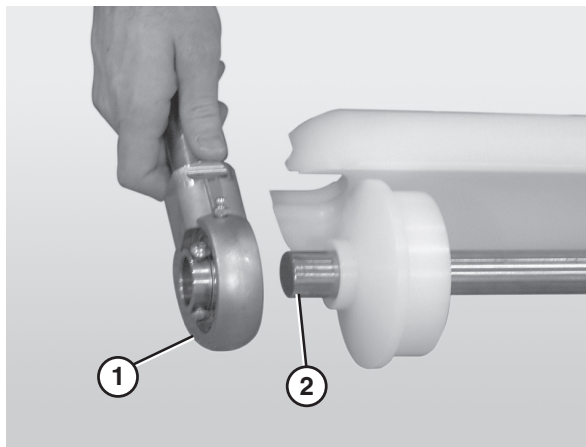

Figure 68
5. Slide the bearing shaft assembly (**Figure 68, item 1**) off the idler shaft (**Figure 68, item 2**).